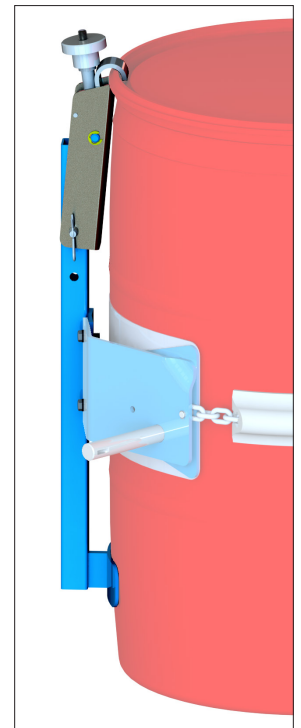

Figure 2.2
- 2. Top Rim Clamp Kit # 4560BM-P** to handle a RIMMED plastic drum (figure 2.2). Install the Top Rim Clamp Kit to handle a RIMMED plastic, steel or fiber drum with suitable top rim.